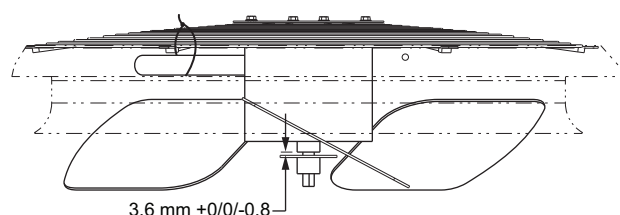

Fig. 26 — Outdoor Fan Blade Position
4. Adjust fan height as shown in Fig. 26.